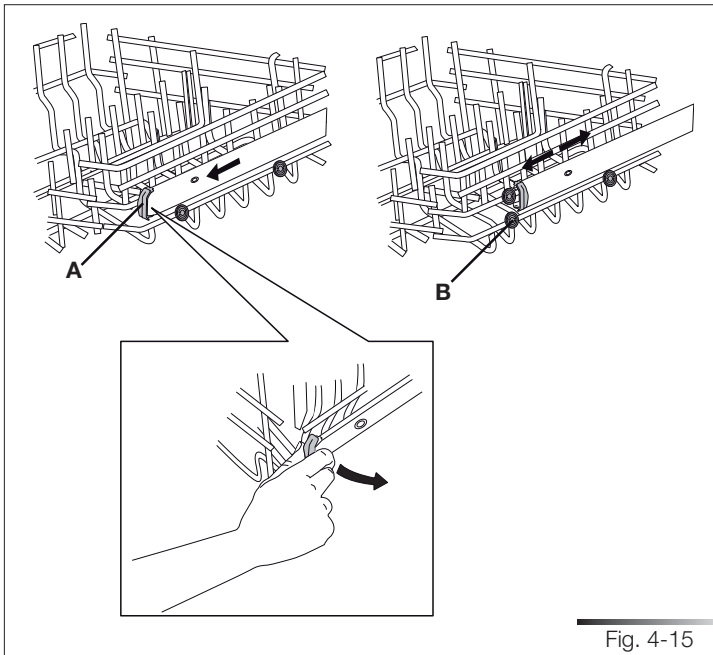

Fig. 4-15
- pull out the right-hand rack guide. Release the corresponding stop (ref. A fig. 4-15) by turning it 90° towards the outside of the dishwasher;
- fit the upper or lower pair of wheels (ref. B fig. 4-15) into the guides, depending on the setting required;
- return the guide stops to their original positions (ref. A fig. 4-15).